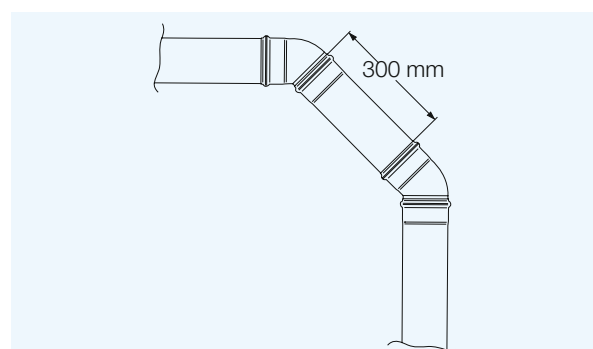

Fig. 4. Two 45° bends with a straight pipe section of at least 0.3 m between the bends should be used for 90° changes in direction.
For 90° changes in direction a straight pipe section of at least 0.3 m should be inserted between the two bends (see Fig. 4).
When using double branch pipes with connecting angles larger than 45°, no sanitary units should be connected to the side pipes closer than 700 mm from the vertical pipe (see Fig. 4).
**Fig. 4.** When using double branch pipes with connecting angles larger than 45°, no sanitary units should be connected to the side pipes closer than 700 mm to the vertical pipe.